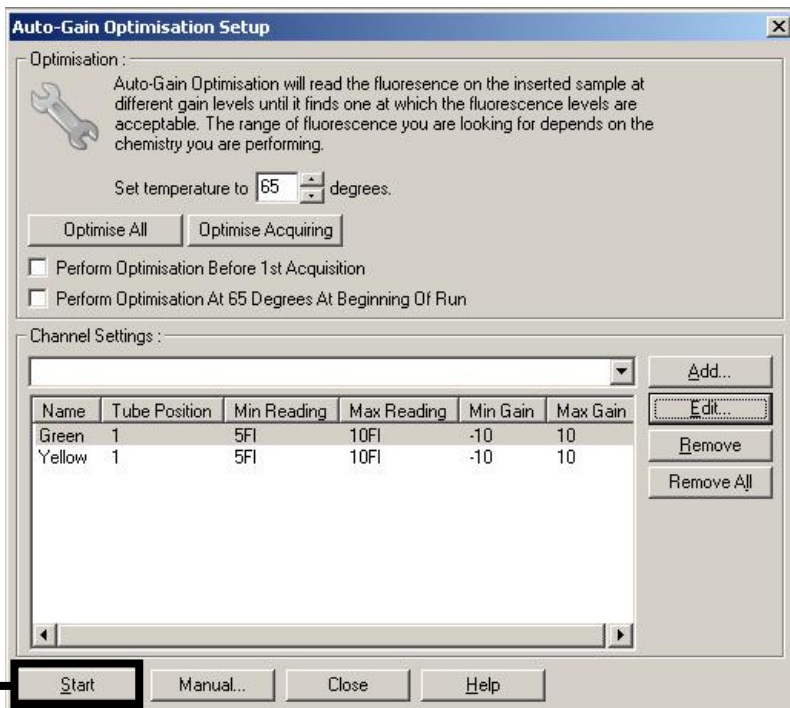

Figure 3. Starting the gain optimization.
3. Click **Start** to begin the gain optimization for the first *artus* assay (Figure 3).